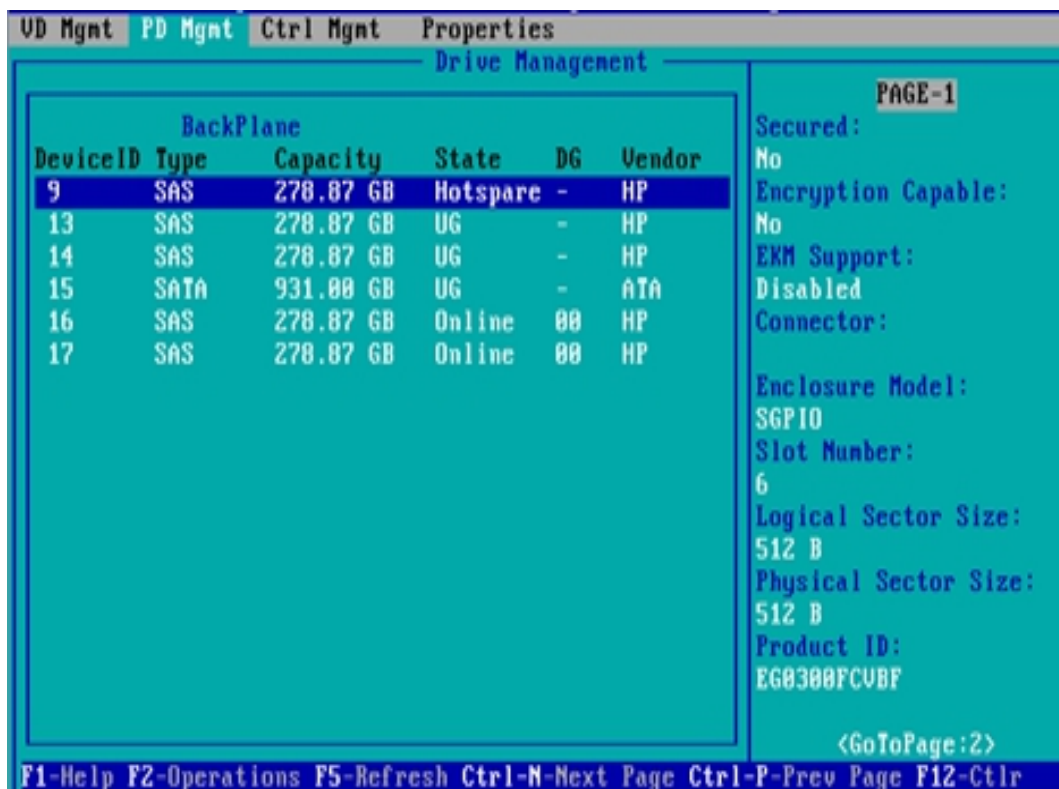

Figure 6-117
- c) Return to the interface shown in figure 6-117 and select the hot spare to view the global hot spare information.
✧ Figure 6-117 viewing global hot spare information